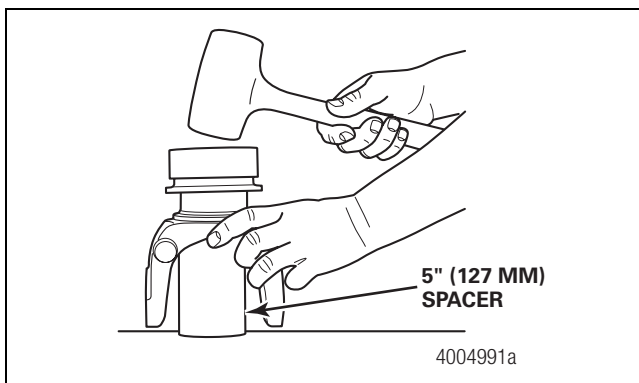

Figure 7
- **If you do not have a press:** Position the yoke on a five-inch (127 mm) spacer on a workbench. Use a dead-blow hammer and the appropriate driver to install the sleeve into the yoke. Figure 7.